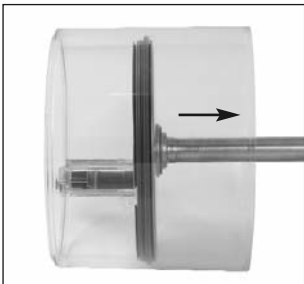

Figure 6
- (v) Remove the base from the bowl by removing the rubber ring (see Figure 5) and tapping the base out in the direction shown (see Figure 6).